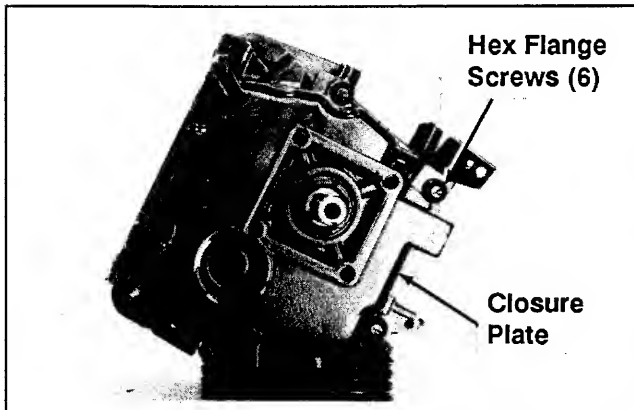

Figure 9-23. Removing Closure Plate.
1. Remove the six hex. flange screws securing the closure plate to the crankcase. See Figure 9-23.